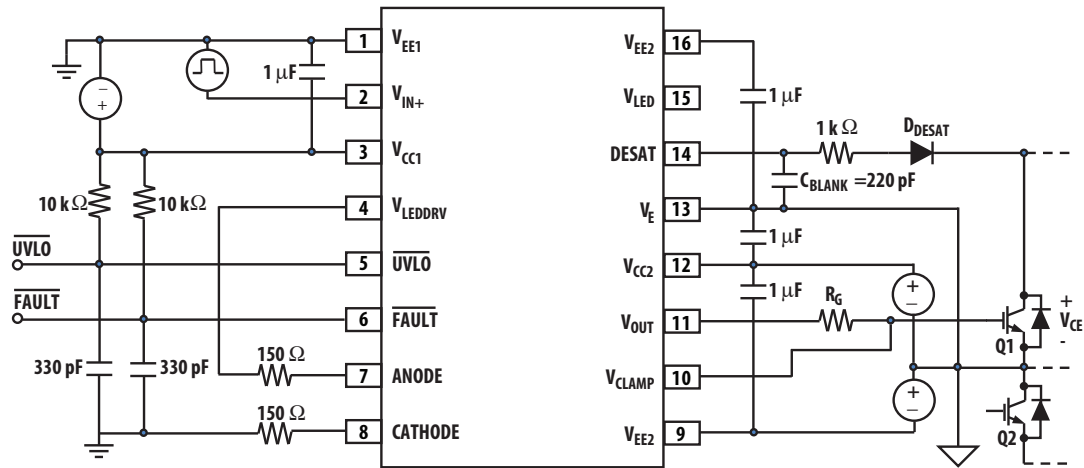
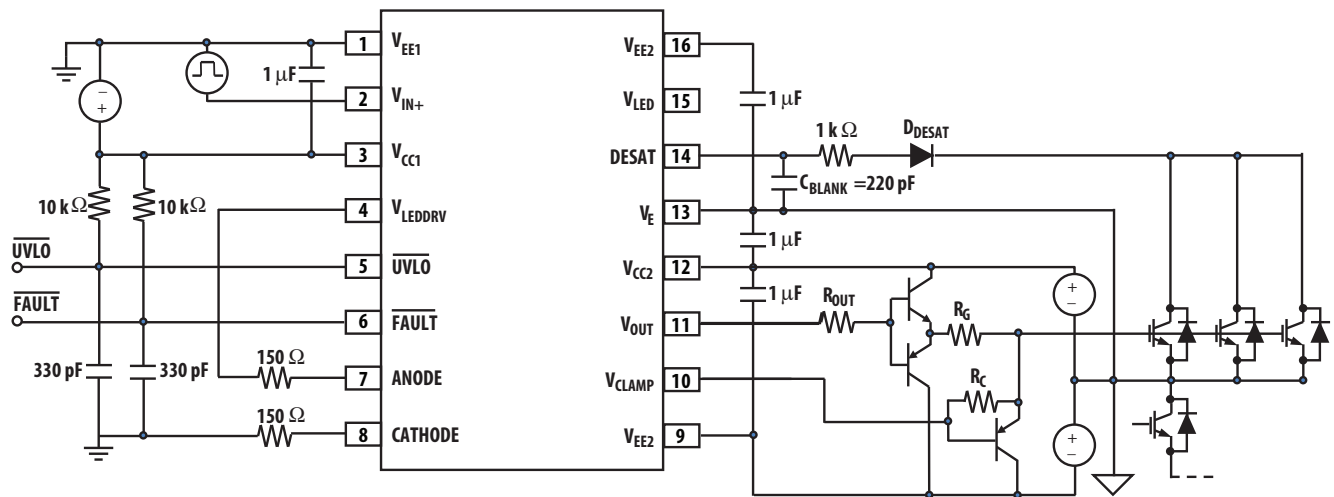

Figure 22. Typical gate drive circuits with DESAT detection
Figure 23. Typical parallel IGBT gate drive circuits with DESAT detection
The nominal blanking time is calculated in terms of external capacitance (C_{BLANK} , see Figure 22 and Figure 23), FAULT threshold voltage (V_{DESAT}), and DESAT charge current (I_{CHG}) in addition to an internal DESAT blanking time ($t_{DESAT(BLANKING)}$).
Step 1: Calculate R_G minimum from the $I_{O(PEAK)}$ specification. The IGBT and R_G in Figure 22 can be analyzed as a simple RC circuit with a voltage supplied by ACPL-337J.
In the recommended application circuit shown in Figure 22, the voltage on pin 14 (DESAT) is $V_{DESAT} = V_F + V_{CE}$, where V_F is the forward ON voltage of D_{DESAT} and V_{CE} is the IGBT collector-to-emitter voltage. The value of V_{CE} that triggers DESAT to signal a FAULT condition is nominally $7\text{ V} - V_F$. If desired, this DESAT threshold voltage can be decreased by using multiple DESAT diodes or low-voltage Zener diode in series. If n is the number of DESAT diodes, the nominal threshold value becomes $V_{CE,FAULT(TH)} = 7\text{ V} - n \times V_F$. If a Zener diode is used, the nominal threshold value becomes $V_{CE,FAULT(TH)} = 7\text{ V} - V_F - V_Z$. When using two diodes instead of one, then diodes with half of the total required maximum reverse-voltage rating may be chosen.